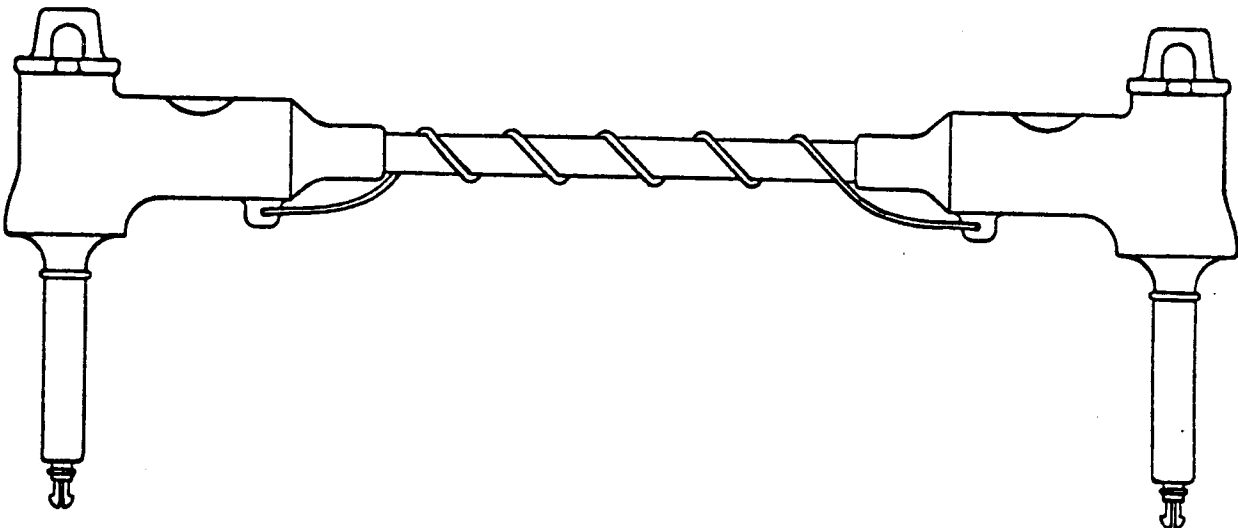

Fig. 1. Potential connector assembly
These instructions describe the procedure for connecting the non-loadbreak potential connector assembly, shown in Fig. 1, to both the Type JKM-95 current transformer and Type JVM-95 voltage transformer to form a completely insulated and ground-shielded assembly. Also, the suggested procedure for testing instrument transformers is outlined.
- 1 Potential Connector Assembly (Fig. 1) — Cat. No. 9930884G10, G11, or G12
Voltage transformers connected line-to-line have two high-voltage insulated terminals. The installation requires one high-voltage terminal to be connected to its associated current transformer as described under "Voltage Transformers Connected Line-to-Ground," and the other terminal to be connected to the third phase. A potential connector assembly (Fig. 1), Cat. No. 9930884G13, G14, or G15, has been provided to do this. This assembly includes a special elbow with conductor rod and locking ring and a section of 15-kV URD cable. The free end of this assembly can be adapted for whatever type connection the user desires to make to the third phase. Otherwise, follow the directions for line-to-ground connections (see above) for the interconnections between the current and voltage transformers and for the single connection of the Group 13, 14, or 15 connector assembly to the voltage transformer.
The most convenient method for energizing the JKM-95 is to make use of the potential connector assembly (Fig. 1) supplied with each JVM-95 voltage transformer. Simply remove one of the two elbows from the cable and replace it with a stress cone made for No. 2 stranded, 15-kV, URD cable. This can be done as follows:
1. JVM-95 VT with Two High-Voltage Terminals — Both primary terminals must be insulated with a potential connector assembly (Fig. 1) modified as described under "JKM-95 Current Transformer" above. When this is done, the transformer can be tested in the same manner as any voltage transformer with two fully-insulated primary terminals.